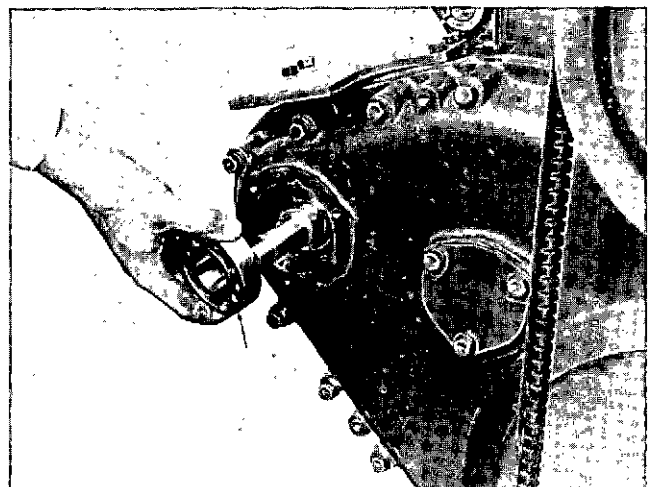

Fig. 14-1-52, V414152. Install auxiliary drive bearing
13. Install auxiliary drive bearing. Fig. 14-1-52. Use piece of tubing and drive against inner race.